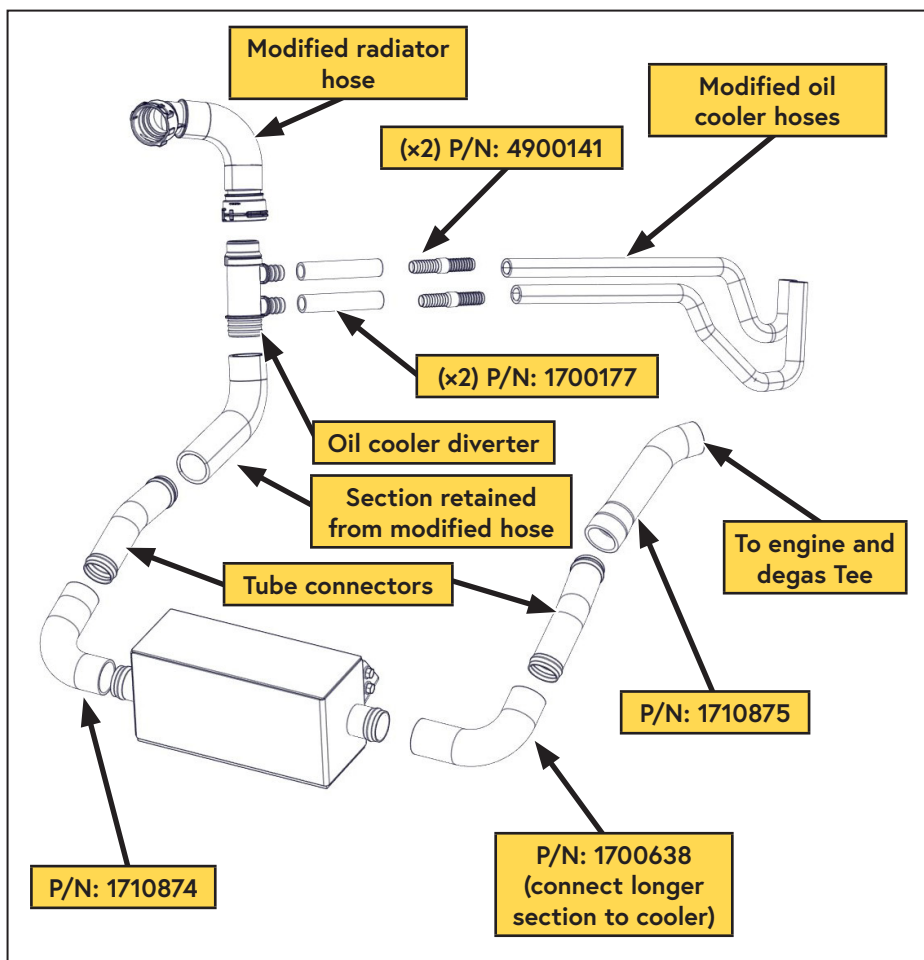

Figure 34 — Modified lower radiator hose schematic
- ☐ Insert the OEM diverter valve, with the spigots facing toward the rear of the vehicle (Figure 34).
- ☐ Install the (x2) 24 in lengths of heater hose onto the oil cooler diverter (Figure 34).
- ☐ Using the supplied gear clamps, install the hose barbs into the heater hoses (Figure 34).
- ☐ Using the supplied gear clamps, install the modified oil cooler hoses onto the hose barbs, and connect them to the OEM oil cooler (Figure 34).
- ☐ Install the modified radiator hose between the diverter and the radiator (Figure 34).
- ☐ Install the supplied hose between the driver side tube connector, and the degas bottle Tee (Figure 34).